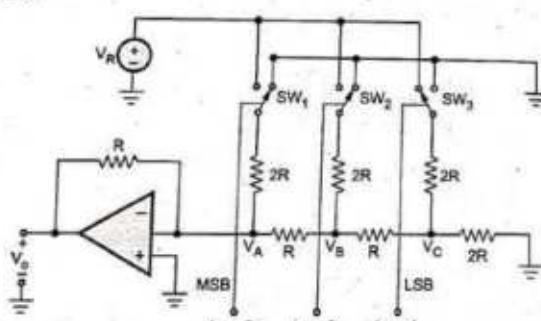

Fig. 6.2.8 3-bit R/2R ladder DAC
- Let us consider 3-bit R/2R ladder DAC with binary input 001, as shown in the Fig. 6.2.8.